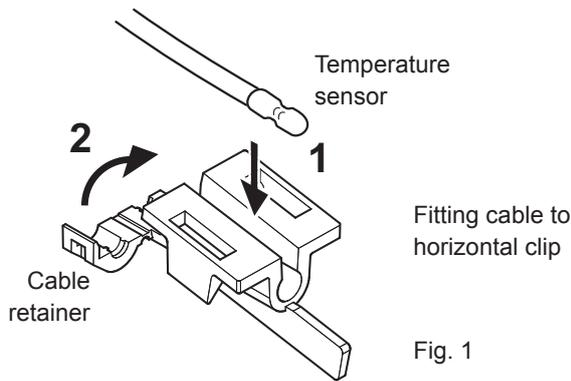

Fig. 1
2. The temperature sensor end must be fitted to the clip. Snap the cable retainer into position over the cable (Fig. 1).